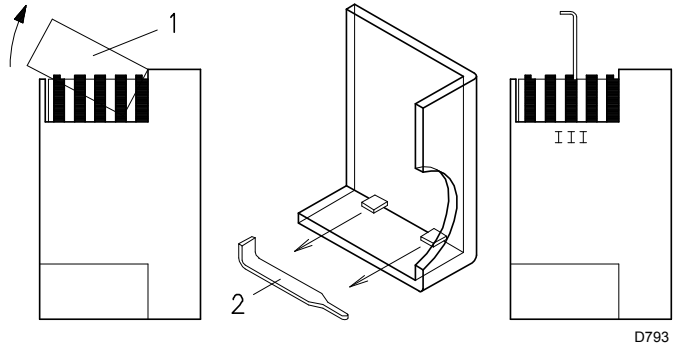

Fig. 28
- If it is necessary to reduce it, reduce slightly the angle of cam III Fig. 28 on page 26 with small, regular movements, i.e. bring it from an angle of 15° to 13° - 11°....
- If it is necessary to increase it, press slightly the button "output increase" 2)(Fig. 26) (open by 10-15° the gas butterfly valve), increase the angle of cam III Fig. 28 on page 26 with small, regular movements, i.e. bring it from an angle of 15° to 17° - 19°....
If it is necessary to adjust cam III Fig. 28, remove the cover 1)(Fig. 28) inserted with a trigger catch, as indicated in Fig. 28, extract the special key 2)(Fig. 28) from inside, and insert it in the notch of cam III.
- 2s: Start of electrical control box programme. Servomotor starts: turn 90° to the left, i.e. until the contact on cam I intervenes (Fig. 28 on page 26).
- 57s: the servomotor rotates towards the right, as far as the angle set on cam III (Fig. 28 on page 26) for the MIN output.
- 77s: The air damper and gas butterfly valve assume the MIN output position (with cam III)(Fig. 28 on page 26) at 15°.